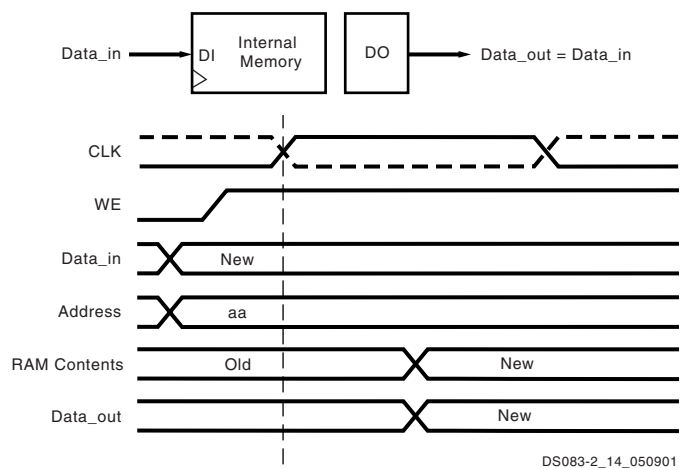

Figure 37: WRITE\_FIRST Mode
The WRITE\_FIRST option is a transparent mode. The same clock edge that writes the data input (DI) into the memory also transfers DI into the output registers DO, as shown in Figure 37.